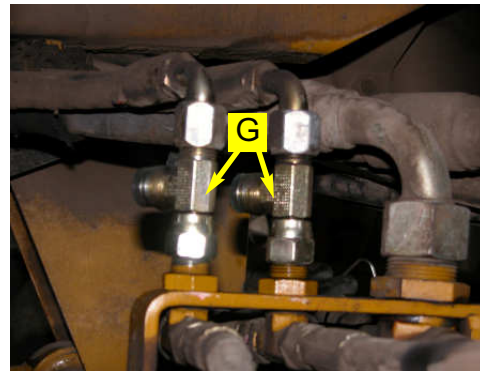

Figure 5c. Installed run tees.
- d. Reattach the steering lines to the ends of the run tees. (Figure 5c.)